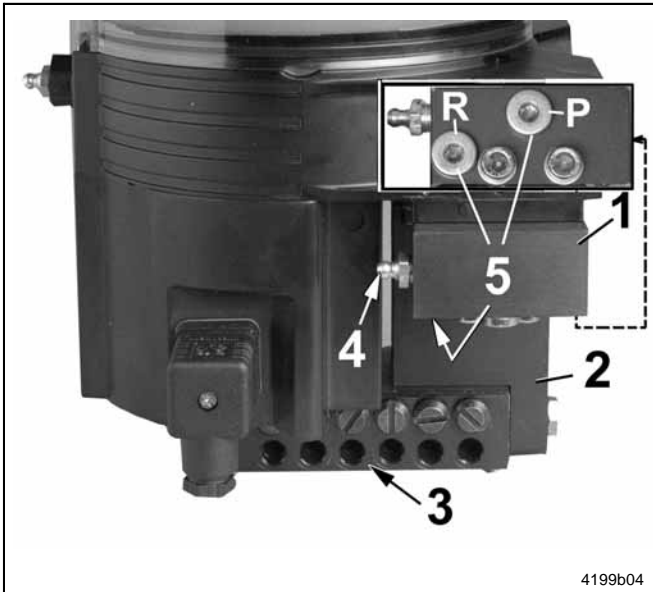

Fig. 15 QLS 401 with bottom position of the SSV divider block
- SSV divider block mounted on the bottom (see Fig. 15)